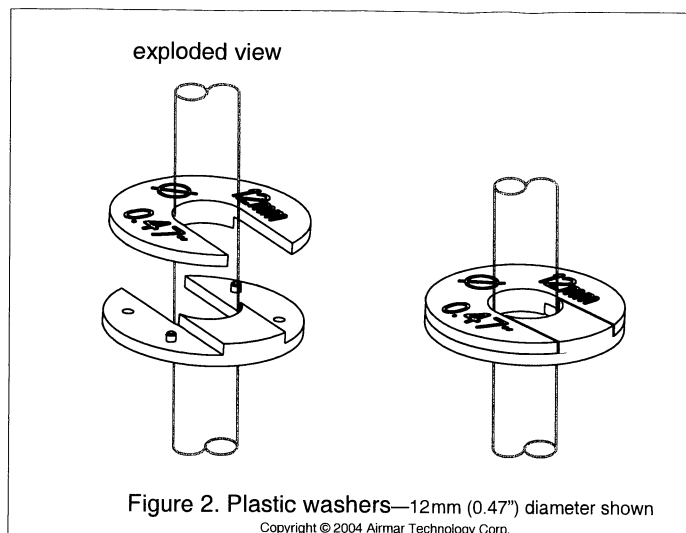

Figure 2. Plastic washers—12mm (0.47") diameter shown
- Put two of the plastic-washer pieces around the cable and press the halves together to form a closed ring (see Figure 2).